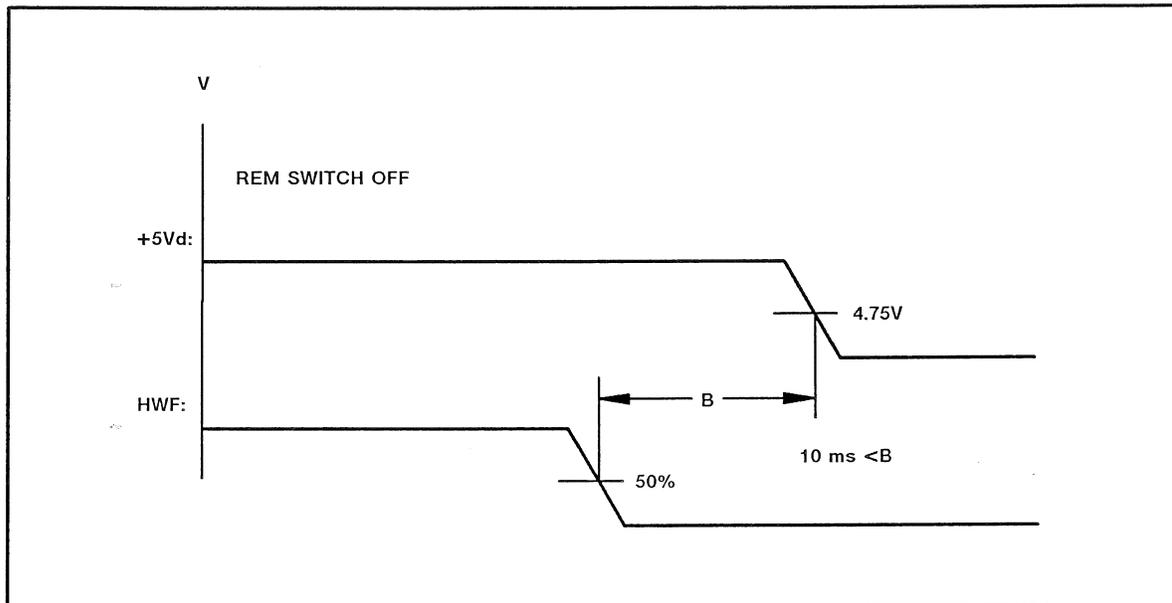

Figure 3-2. +5Vd delay after power-off.
8. Verify that the delay between the positive-going HWF signal (at the 50% point) and the positive-going +5Vd signal (at the +4.75 V level) is more than 10 ms. (See Figure 3-2.) Adjust the Test Oscilloscope horizontal position control to obtain a proper waveform display and use the cursor to measure the time difference.